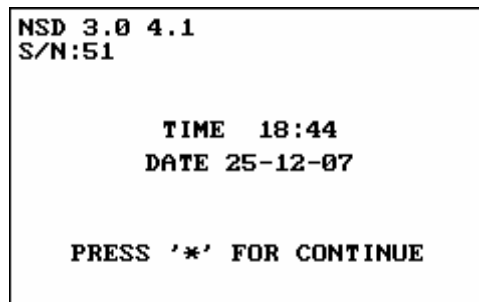

Figure 3. START UP mode screen view
1.3.3.1. NSD modes of operation are START UP, WARM UP, BACKGROUND, SEARCH, INTEGRAL, and SETUP. Press the button "Switch On" to turn NSD on and held it for. When it turns on NSD goes on to the START UP mode and checks the proper functioning of intrinsic systems. When monitor turns at the same time on LEDs "Alarm" and "Safety alarm" flashes, display illuminate, also acoustic alarm ringing and tuned-reed indicator of alarm switches on for approx. 3 second. Hardware and Software version, Serial number, time and date are displayed on the screen (Fig. 3). Duration of STARU UP mode is 10 s, mode can be canceled by pressing the button '*'.